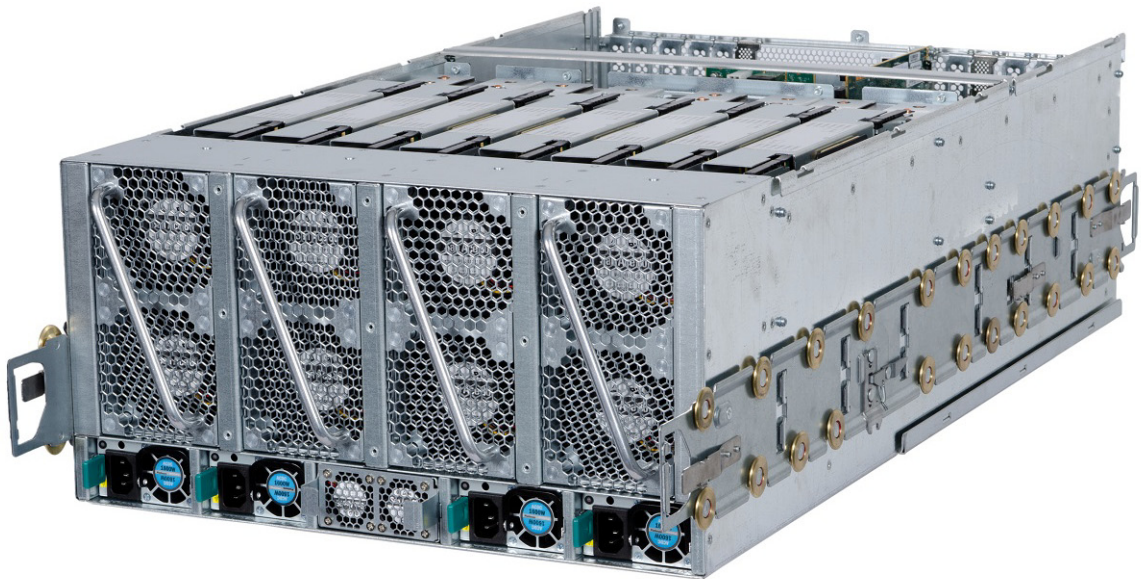

Figure 5-6 UV 300 Power Supply and Fan Locations
1. Open the rear door of the rack and locate the power supply that needs replacement. The power supplies are located along the bottom section of each UV 300 chassis, see Figure 5-6 for an example.
Chassis cooling for each UV 300 chassis is provided by four rear-mounted fan assemblies (as seen in Figure 5-6 on page 62). Each chassis cooling fan unit is made up of two stacked 80mm fans.